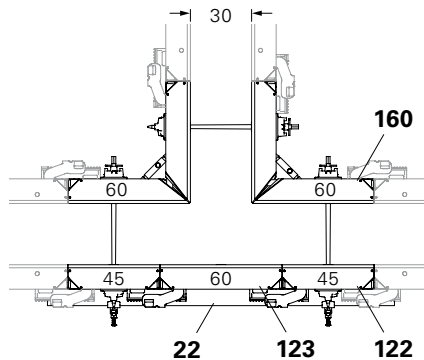

Fig. C5.05
- Wall thickness 30: Fig. C5.05